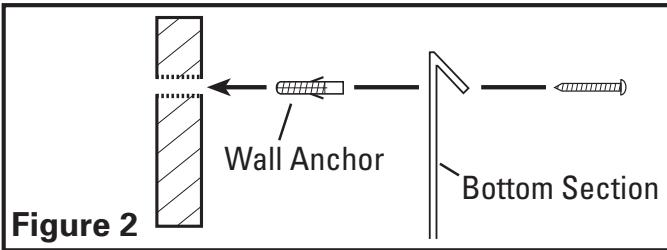

Figure 2
1. Install the included wall anchors by drilling into the wall at the locations that were marked earlier (**Figure 2**).
2. Install the bottom section of the back splash by lining up the 6 holes in the back splash with the wall anchors that were installed earlier and attach using the included screws (**Figure 2**). If your back splash is equipped with the optional shelves please continue with step 3. If your back splash does not include shelves proceed to step 6 in this section.